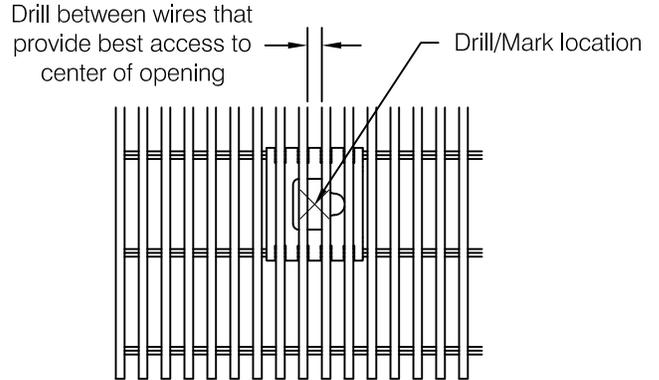

fig 2
- Step 4:** Position the entire grille in the recess opening with wires up and cross supports down (as they will be when installation is complete). Align sections to maximize the appearance of the installation. When the grilles are in the desired position mark the substrate at each clip location using a small diameter masonry drill that will pass between the wires without significant contact with the wires. Mark the substrate in the center of the rectangular portion of the opening in the clip, see **fig 2**. The clip is designed to align this portion of the opening with a gap between the wires above.